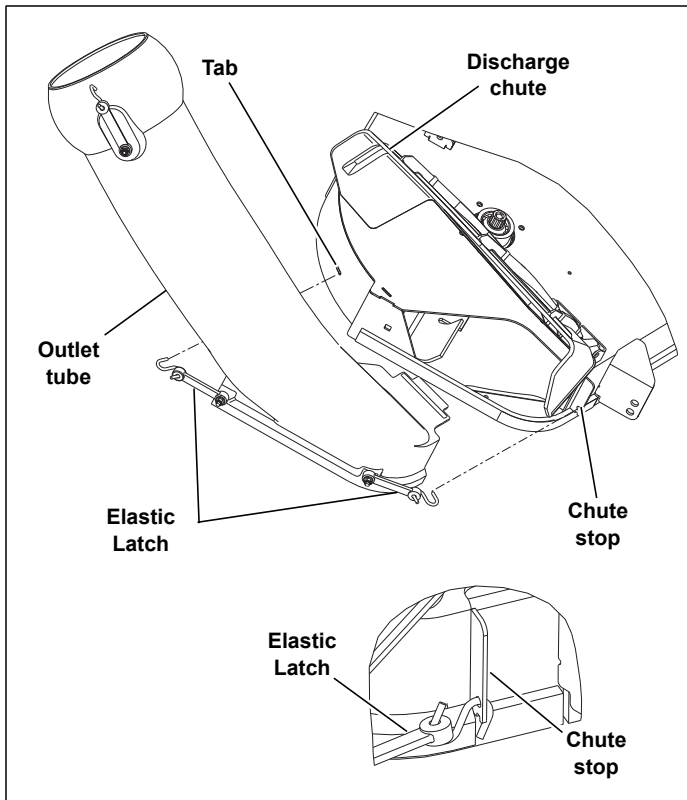
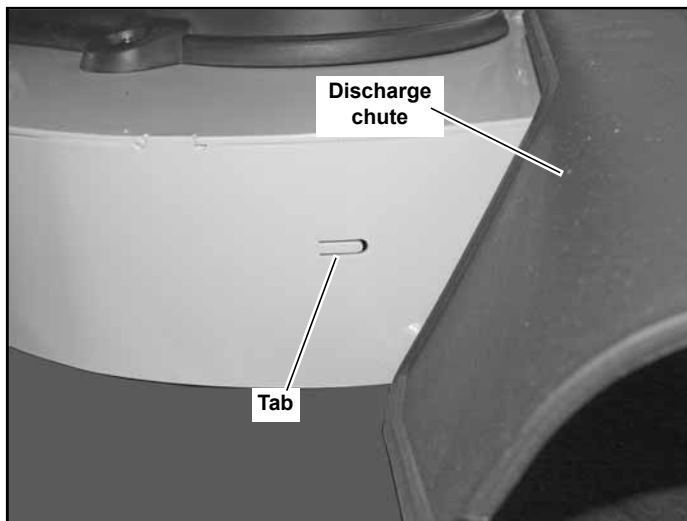
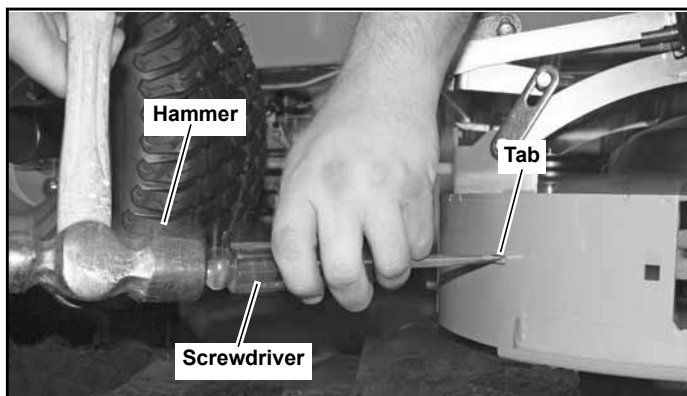

Figure 3-12
Figure 3-13
Figure 3-14
18. There is one tab located at the rear side of the deck that will need to be bent inward. Use a hammer and screwdriver to bend the tab inward enough to allow the steel hooks of the elastic latch on the outlet tube to be inserted into the slot. Figure 3-12, Figure 3-13 & Figure 3-14
Secure the outlet tube in place with the elastic latches. Figure 3-12